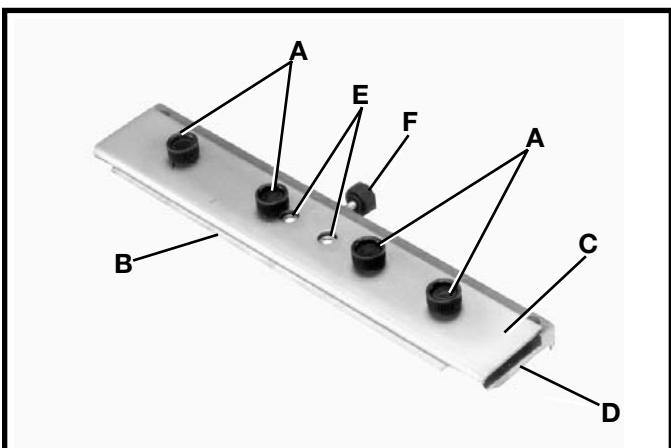

**Fig. 51**
5. Fig. 51, illustrates a rough grinding operation on a planer knife using the dry wheel.